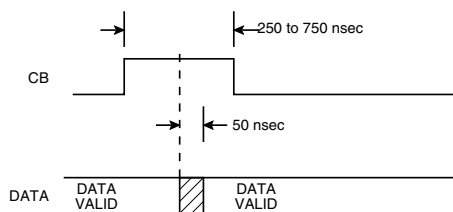

FIGURE 20. CONVERTER BUSY TIMING
The Converter Busy (CB) signal indicates that the tracking converter output angle is changing 1 LSB. As shown in FIGURE 20, output data is valid 50 ns maximum after the middle of the CB pulse. CB pulse width is $1/4 F_S$, which is nominally 375 ns.
Note: The converter \overline{INH} may be applied regardless of the CB line state. If the CB is busy the converter \overline{INH} will wait for timing referenced to CB (Fig.20), before setting the \overline{INH} latch. Therefore when applying an inhibit signal to the converter there is no need to monitor the CB line.